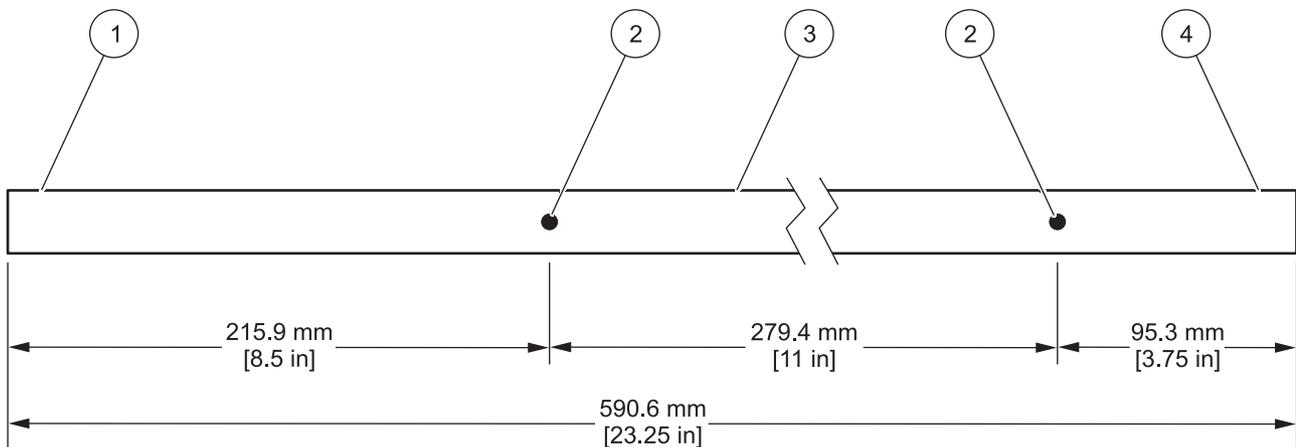

Figure 24 Pump tubing measurement
2. If using bulk pump tubing, cut a 23.25 inch piece and mark the tube with alignment dots at the locations shown in Figure 24.